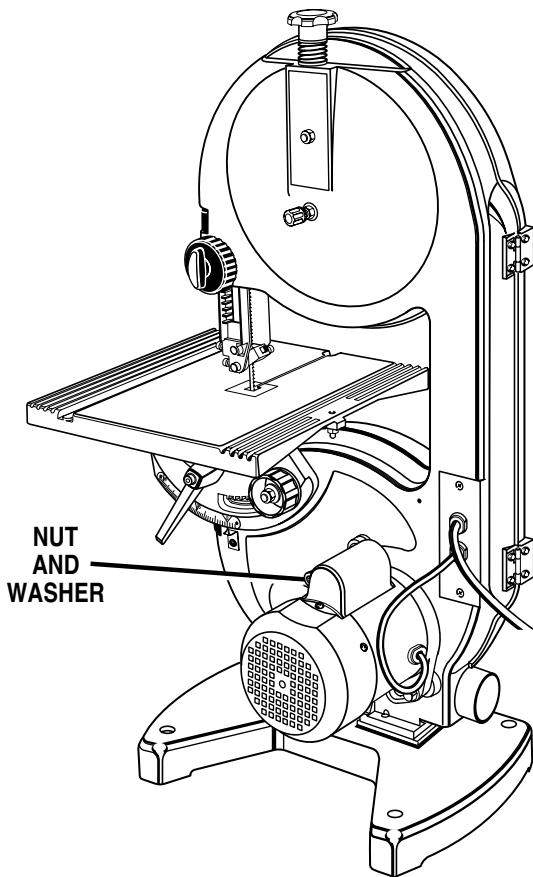

Fig. 20
See Figures 20 and 21.
- Remove the nut and washer from the middle of the saw housing. *See Figure 20.*